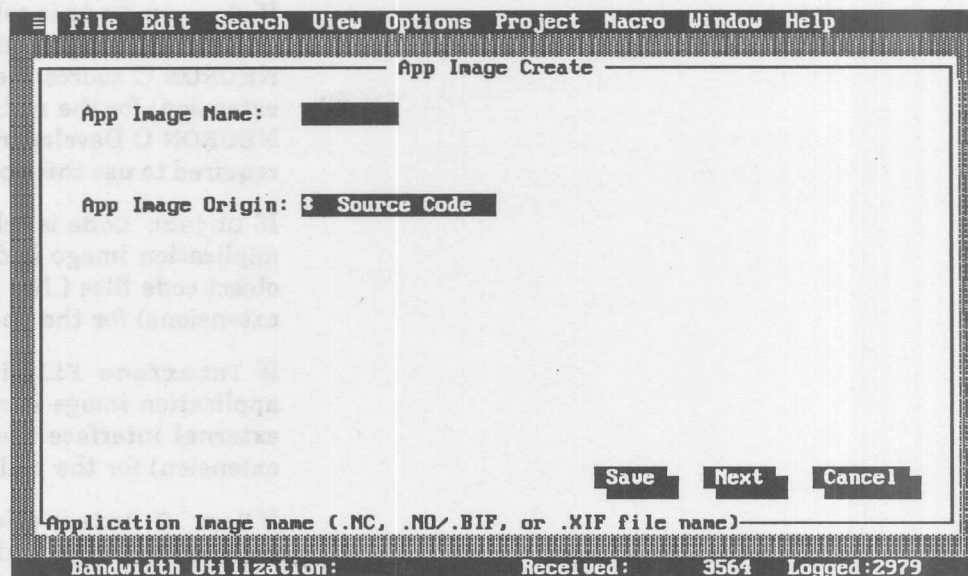

Figure 6-8. Application Image Create Window
- 4 Select the Create command button to open the Application Image Create window (see figure 6-8).